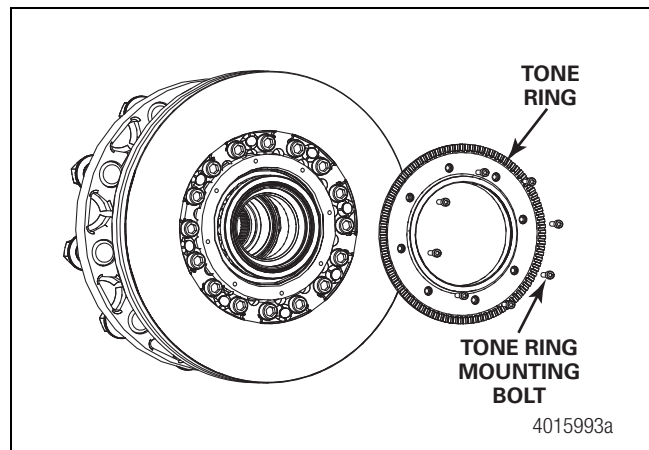

Figure 4.16
1. Remove the mounting bolts and remove the tone ring from the rotor. Figure 4.16.